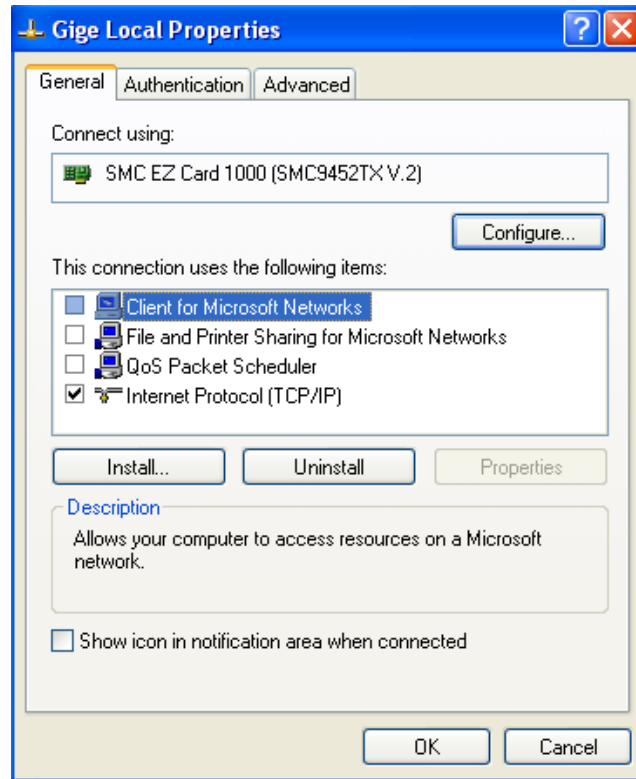

Figure 9. Network card main properties window.
- Open the Network Connections Dialog as follows: From the Windows desktop select **start**, then select **Control Panel**, then double click on the **Network Connections** icon. Double click the relevant network card listed or right-click the relevant network card and select **Properties**. This will open the properties window for your network card. See Figure 9.
- From the main properties dialog as in Figure 9, make sure that only the **Internet Protocol (TCP/IP)** check box is selected then click **OK**. The card is now optimized for use with the Prosilica GE camera.